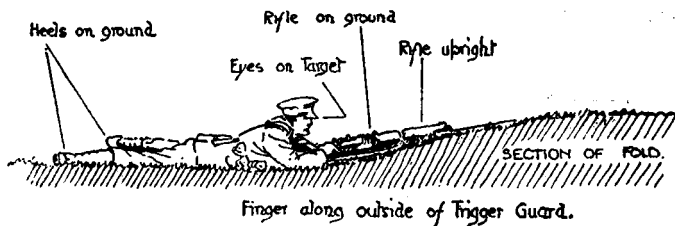

FIG. 25
i. *Position behind cover.*—Body, rifle and bayonet (if fixed) completely concealed in any convenient position (see Fig. 25).